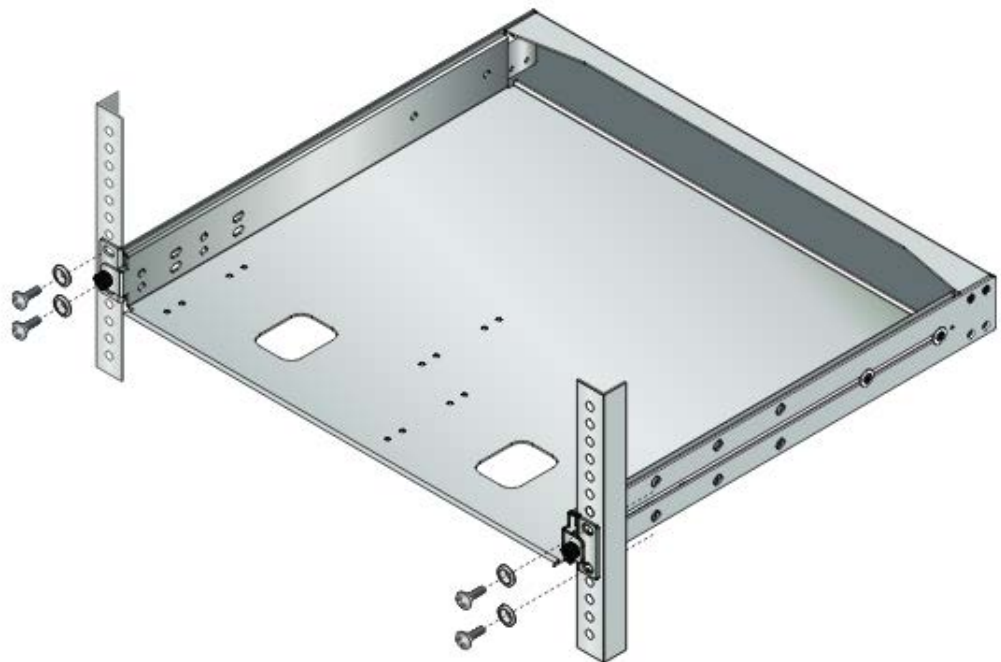

Figure 39. Installing the RKMT-J15 Tray in an Equipment Rack
3. Mount the RKMT-J15 tray in a 19-inch equipment rack using four equipment rack screws. See Figure 39